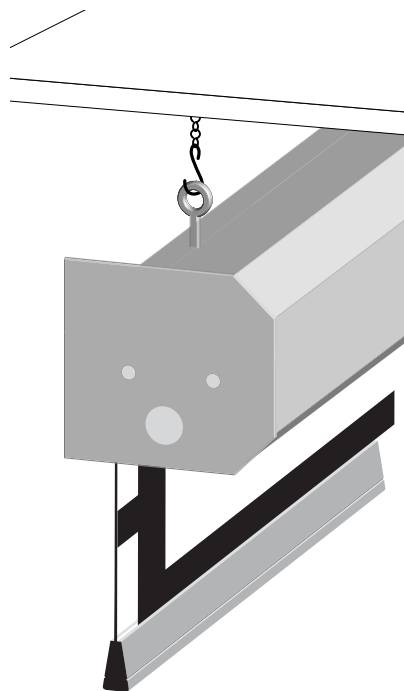

Figure 5: Suspended installation
2. Suspend the unit from the eye bolts on the unit using chains, cables, or turnbuckles. Refer to Figure 5.